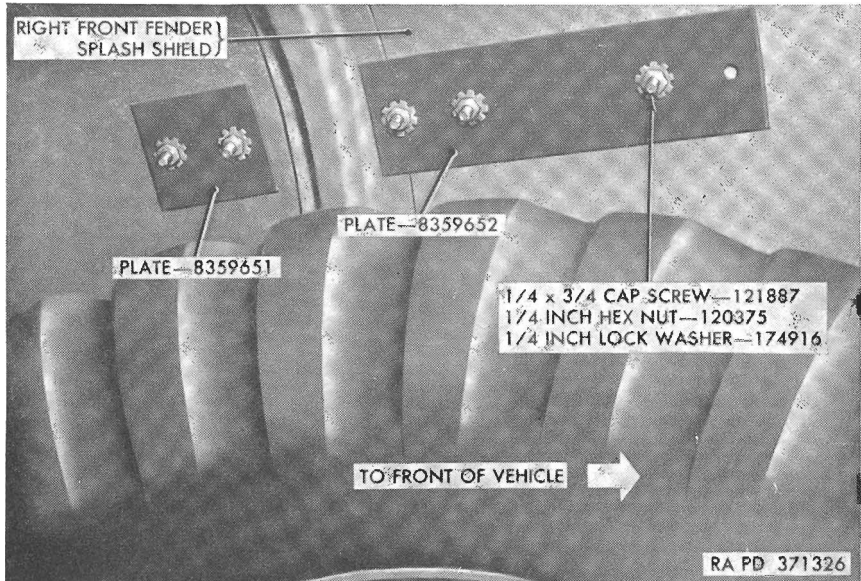

Figure 4. Backing plates installed.
m. Position two backing plates (fig. 4) on wheel side of splash shield and secure heater mounting plate and backing plates to splash shield, using five  $\frac{1}{4}$  x  $\frac{3}{4}$  cap screws, lockwashers, and hexagon nuts.